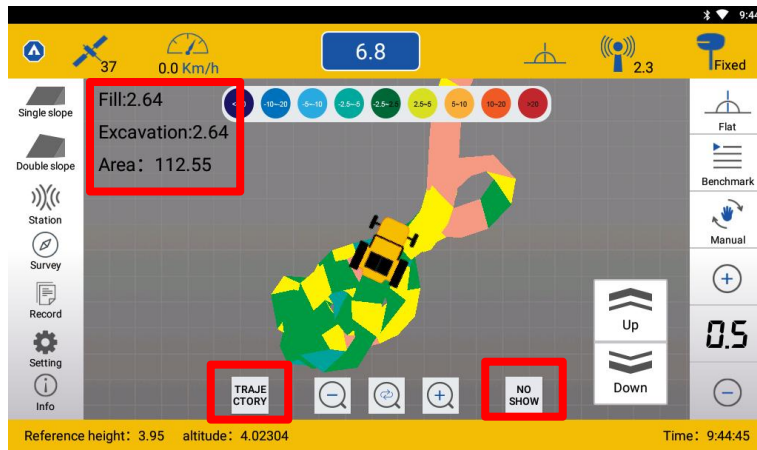

Figure 23
Step5. Click the TRAJECTORY button to switch to the relief map interface. Click the NO SHOW button to display the height difference value. (Figure 23)